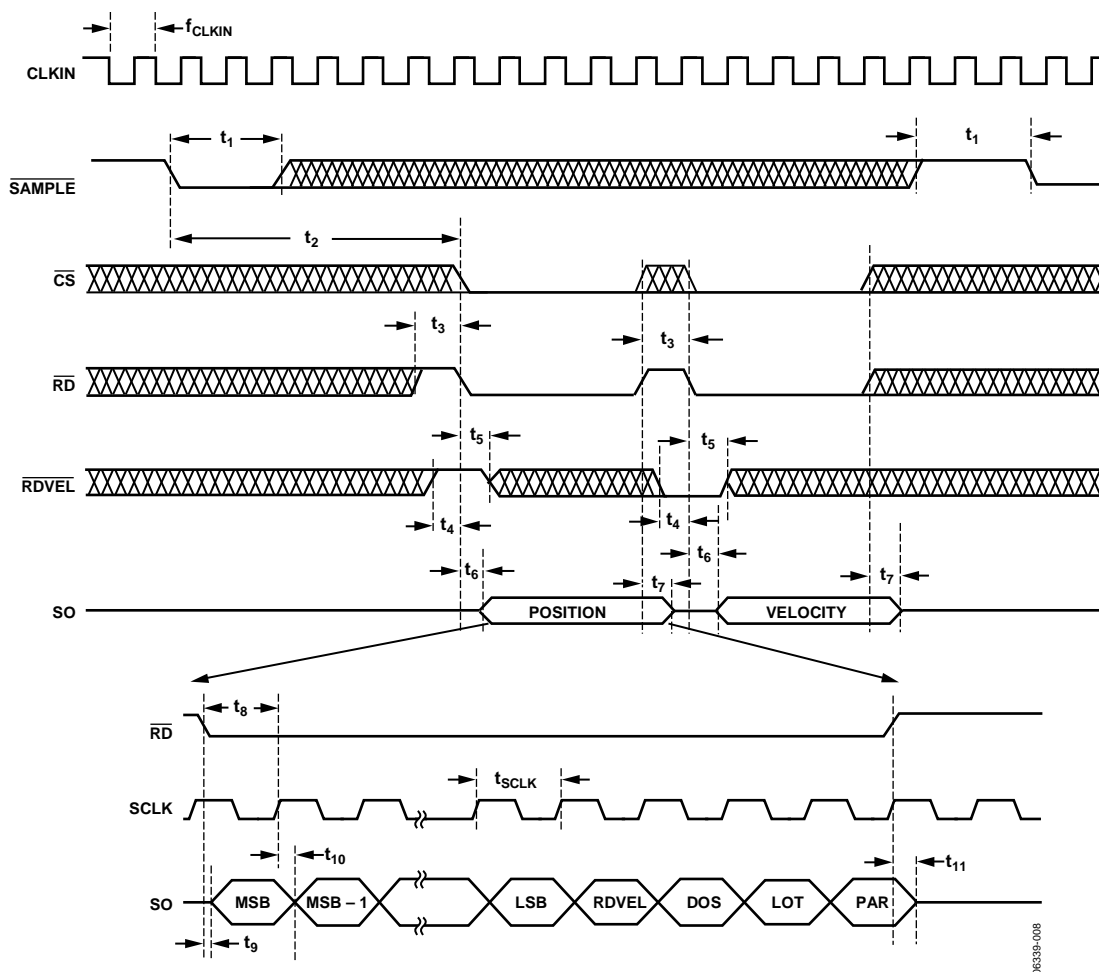

Figure 8. Serial Port Read Timing
The angular position and velocity are available on the AD2S1205 in two 12-bit registers. These registers can be accessed via a 3-wire serial interface (SO,  $\overline{\text{RD}}$ , and SCLK) that operates at clock rates of up to 25 MHz and is compatible with SPI and DSP interface standards. The serial interface is selected by holding the  $\overline{\text{SOE}}$  pin low. Data from the position and velocity integrators are first transferred to the position and velocity registers using the SAMPLE pin. The RDVEL pin selects whether data is transferred from the position or velocity register to the output register, and the  $\overline{\text{CS}}$  pin must be held low to transfer data from the selected register to the output register. Finally, the  $\overline{\text{RD}}$  input is used to read the data that is clocked out of the output register and is available on the serial output pin (SO). When the serial interface is selected, DB11 is used as the serial output pin (SO), DB10 is used as the serial clock input (SCLK), and Pin DB0 to Pin DB9 are placed into the high impedance state. The timing requirements for the read cycle are described in Figure 8.
The output shift register is 16 bits wide. Data is clocked out of the device as a 16-bit word by the serial clock input (SCLK). The timing diagram for this operation is shown in Figure 8. The 16-bit word consists of 12 bits of angular data (position or velocity, depending on RDVEL input), one RDVEL status bit, and three status bits (a parity bit, a degradation of signal bit, and a loss of tracking bit). Data is clocked out MSB first from the SO pin, beginning with DB15. DB15 through DB4 correspond to the angular information. The angular position data format is unsigned binary, with all 0s corresponding to 0° and all 1s corresponding to 360° – 1 LSB. The angular velocity data format is twos complement, with the MSB representing the rotation direction. DB3 is the RDVEL status bit, with a 1 indicating position and a 0 indicating velocity. DB2 is DOS, the degradation of signal flag (refer to the Fault Detection Circuit section). Bit 1 is LOT, the loss of tracking flag (refer to the Fault Detection Circuit section). Bit 0 is PAR, the parity bit. The position and velocity data are in odd parity format, and the data readback always contains an odd number of logic highs (1s).